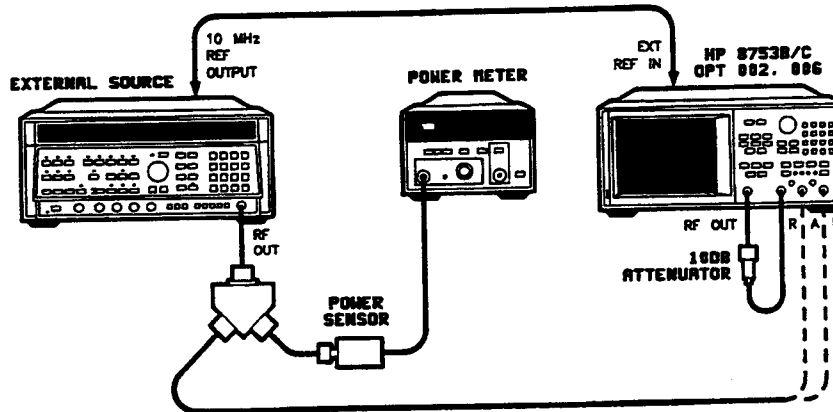

Figure 28. HP 8753B/C Option 002 and Option 006 Absolute Amplitude Accuracy Test Setup
1. Connect the equipment as shown in Figure 28 and allow one hour warm-up.